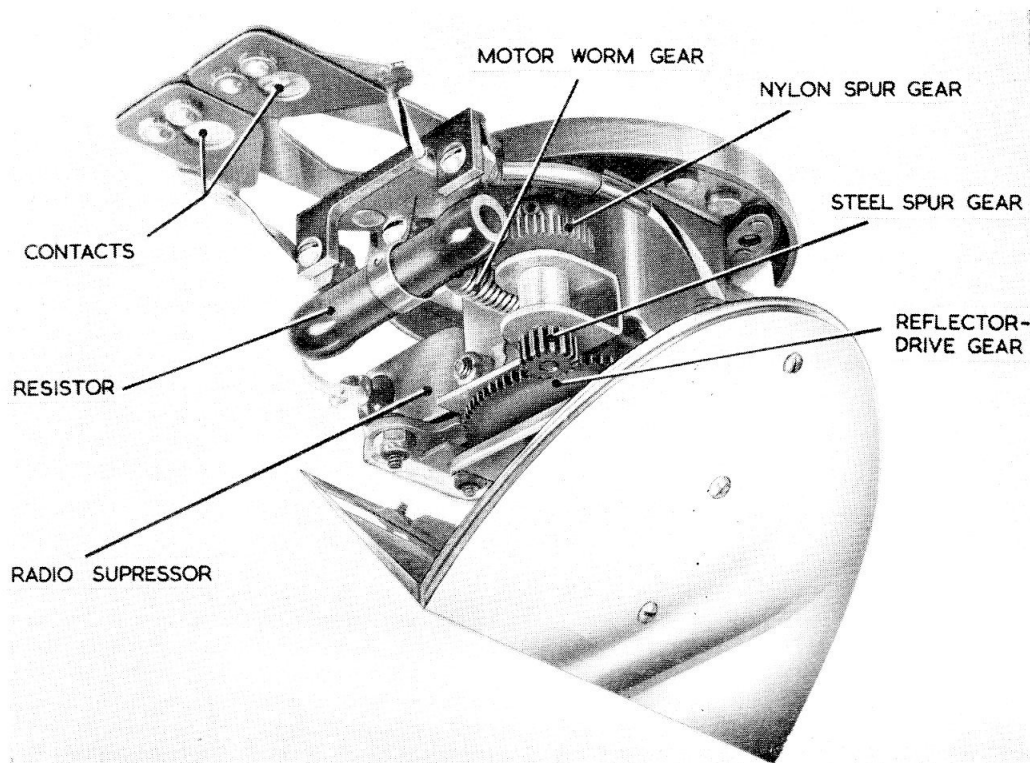

Fig. 3. Typical motor, gear and reflector assembly
6. The lens is of toughened red glass and the cover of pressed alloy, the upper rim of the lens fits into the flange of the cover and is secured by four spring clips and is bedded into a sealing compound. The lens and cover are removable as a single assembly to facilitate filament renewal by unscrewing the two countersunk headed Phillips screws, annotated REMOVE TO RELAMP. Also secured to the cover by three $\frac{1}{8}$ -in. screws is the motor, gear and reflector assembly which is shown removed from the cover in fig. 3.